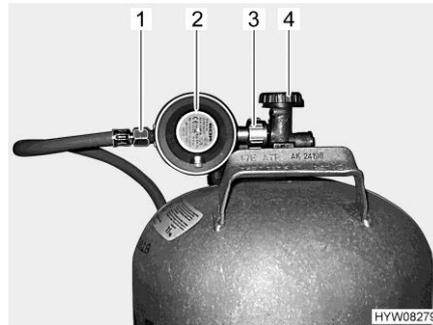

Fig. 122 Gas bottle connection
- Close the regulator tap (Fig. 122,4) on the gas bottle. Pay attention to the direction of the arrow.
- Hold the gas pressure regulator (Fig. 122,2) and open the knurled nut (Fig. 122,3) (normally a left-hand thread).
- Remove the gas pressure regulator and the gas tube (Fig. 122,1) from the gas bottle.
- Position the gas pressure regulator (Fig. 122,2) with gas tube (Fig. 122,1) on the gas bottle and tighten the knurled nut (Fig. 122,3) (normally a left-hand thread). **Do not** tighten too firmly.